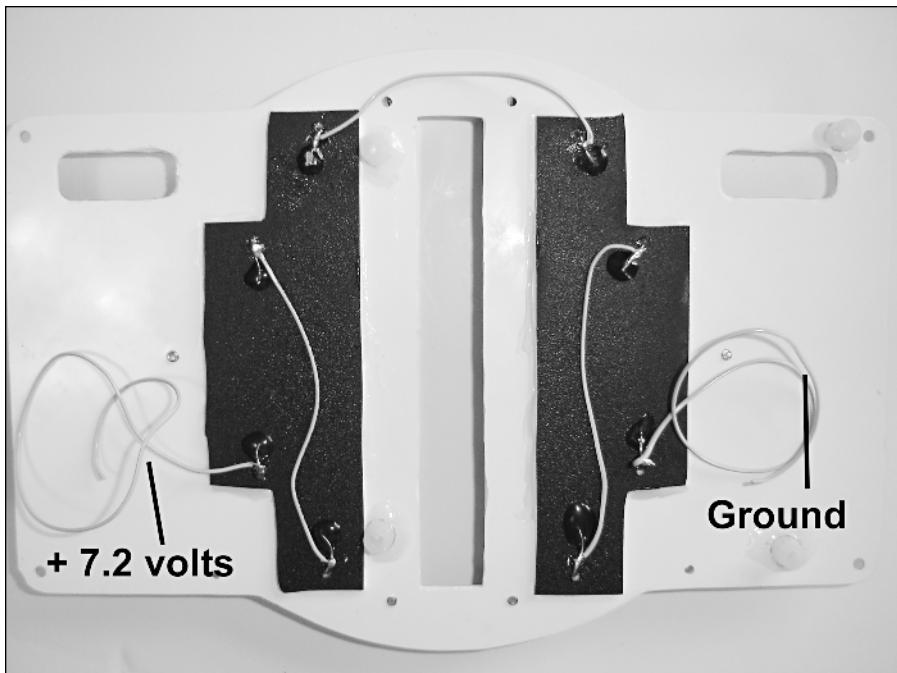

FIGURE 10-17: Attaching power wires to the battery terminals.
4. Hey, remember your soldering iron? I know we haven't used one yet in this chapter, but now's the chance! Attach wires to the back of the rear plate as shown in Figure 10-17. Melt the solder strand directly on the terminal wires for best results — this allows the rosin core of the solder to adhere to the metal of the terminal.